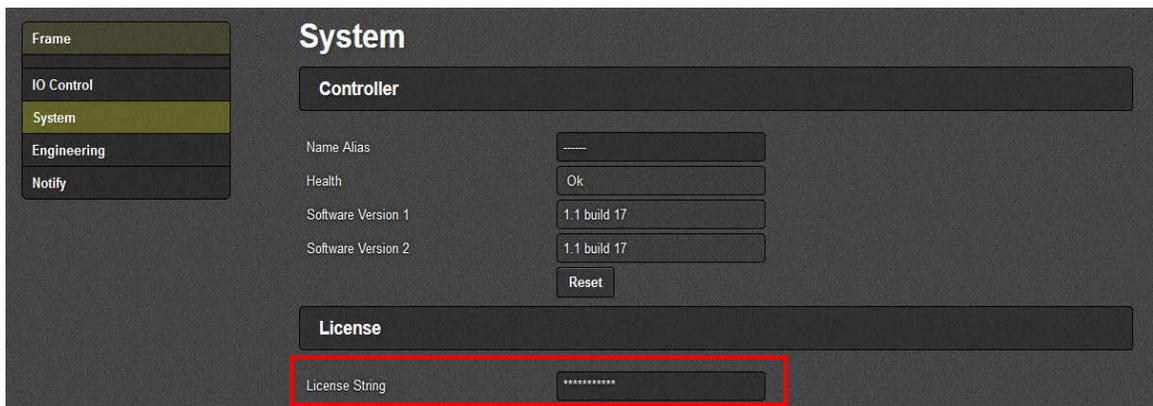

Figure 4-7 : WebEASY® - System\ License String
- Go to webpage and paste this string under System -> License and hit apply (Figure 4-7).